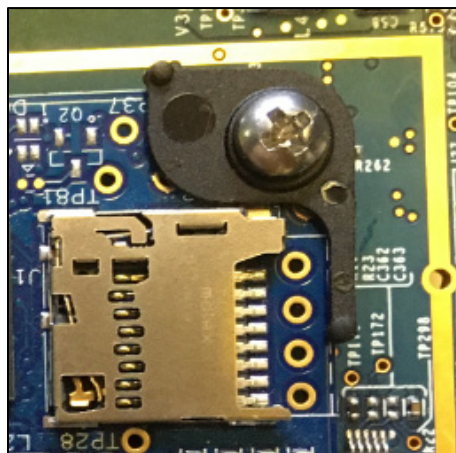

Figure 53 Screw and Locking Lever
2. Carefully unscrew the Phillips screw, and remove the locking lever, setting the screwdriver and screw in a safe place (Figure 53).